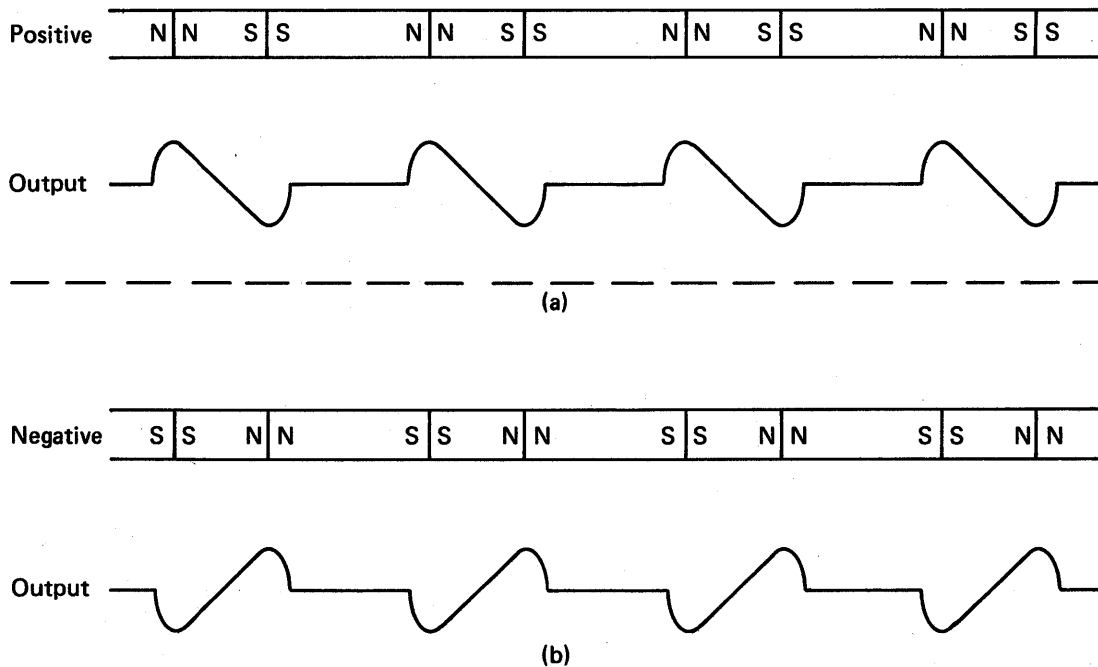

Figure 46. Positive and negative dibit patterns
14. The waveshapes shown in figure 46 are the dibit signals. The pattern of dipoles in (a) generates a waveshape which starts with a positive alternation; therefore, this pattern is referred to as positive dibits. The pattern of dipoles in (b) generates a waveshape which starts with a negative alternation; therefore, this pattern is referred to as negative dibits. Remember that these dipoles can only be recorded at the factory, so when a new disk pack is received for the SMD, the pack will already have these dipoles recorded.